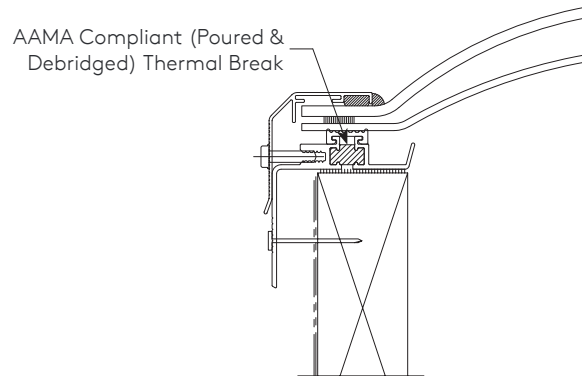

Figure 10.0
- If the skylight was properly designed, built, specified and purchased for the site's ASHRAE (climate conditions) condensation should not be an issue. Most skylights installed on buildings with heated and/or air conditioned interiors will be double glazed which in itself reduces the potential for condensation. Additionally, well designed skylights will utilize an AAMA compliant thermal break which completely separates the exterior skylight frame from the interior skylight frame. (See Figure 10.0) Some skylight manufacturers utilize thermal barriers designs that are not AAMA compliant and usually identify their designs as "insulated thermal break" or "thermalized". These designs may not be as effective in preventing condensation.